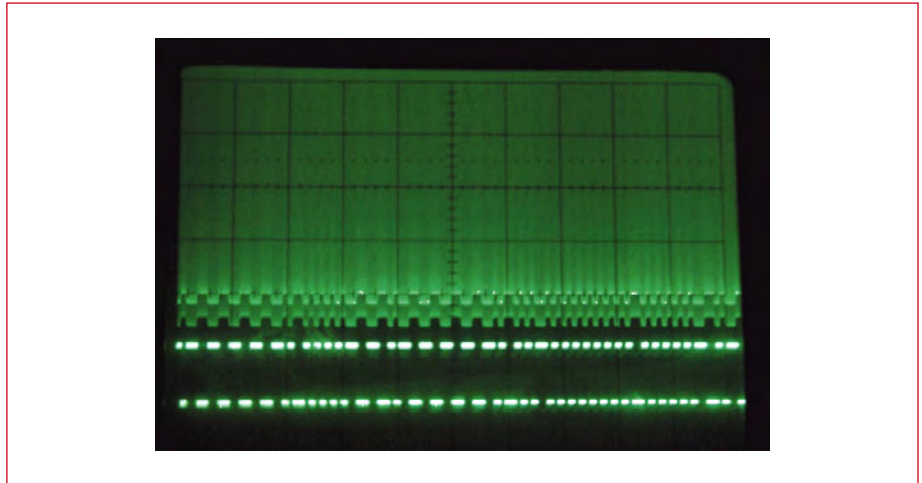

Figure 8. Oscillogram showing the modulated 125-kHz signal (top) and the data signal at the DEMOD\_OUT output of the EM4095 (bottom).
**Figure 8** shows an example of the acquisition of an RFID tag. The upper waveform in the oscillogram is the modulated 125-kHz signal, and the lower waveform is the data signal at the DEMOD\_OUT output (pin 13 of the IC or pin 2 of connector K2 on the PCB). As you can see, the transponder sends its data as it is supposed to – this is what you should see when everything is in order.